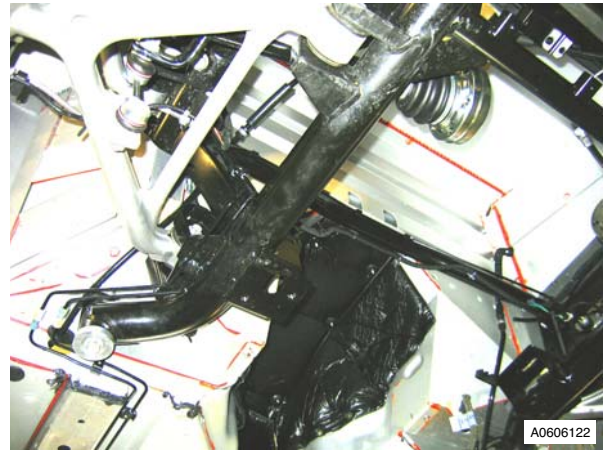

Fig. 1
10. Ease wheel arch liner downwards to access brake tube union (see Fig. 1 - RHS shown).